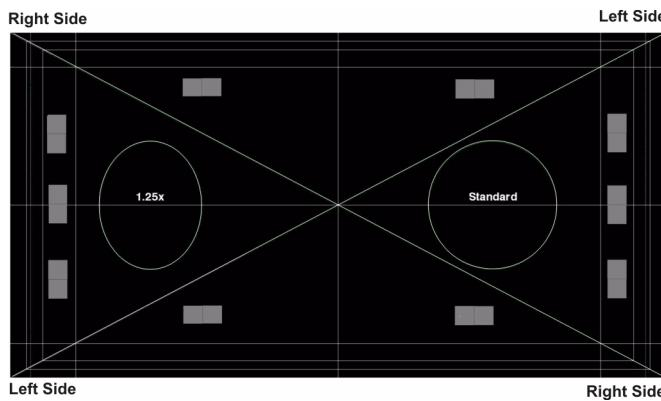

FIGURE 3-14 EXAMPLE OF FRAMING TEST PATTERN
7. Check the screen each time an adjustment is made. The right-side adjustments affect the top right and bottom left points on the screen (**Figure 3-14**). Once both cross hairs are in focus lock the setscrew for right boresight.